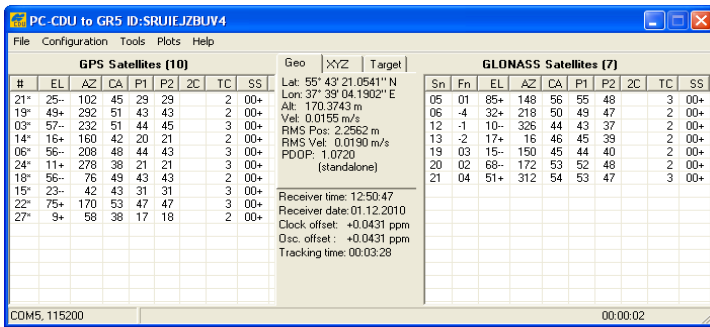

Figure 3-31. PC-CDU Connection Established
6. Click **Set all parameters to defaults** (Figure 3-31).